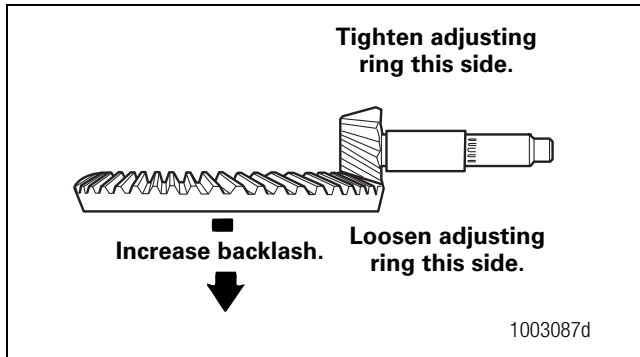
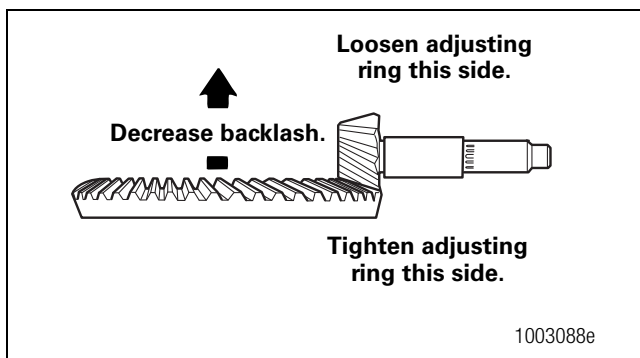

Figure 5.37
Figure 5.38
5. Loosen one bearing adjusting ring one notch, then tighten the opposite ring the same amount. Figure 5.37 and Figure 5.38.
- A. **To increase backlash:** Move the ring gear away from the drive pinion. Figure 5.37.
- B. **To decrease backlash:** Move the ring gear toward the drive pinion. Figure 5.38.